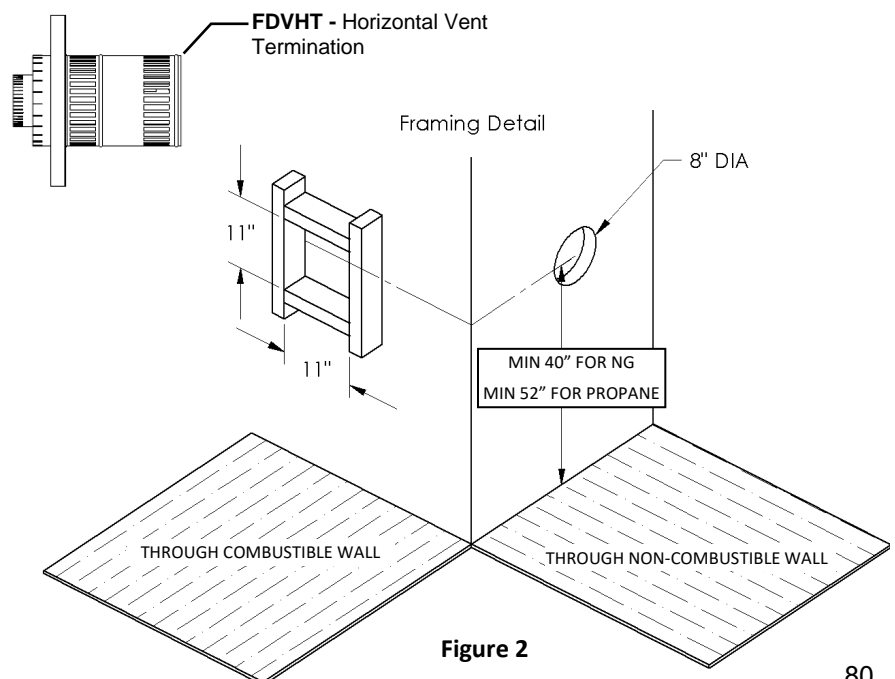

Figure 2
- To determine the minimum distance from the bottom of fireplace to center of vent see the Framing Your Gas Fireplace section. Cut a hole through the wall allowing for an 11" x 11" (inside diameter) in combustible walls for wall thimble or an 8" diameter hole in a non-combustible wall (See Figure 2).